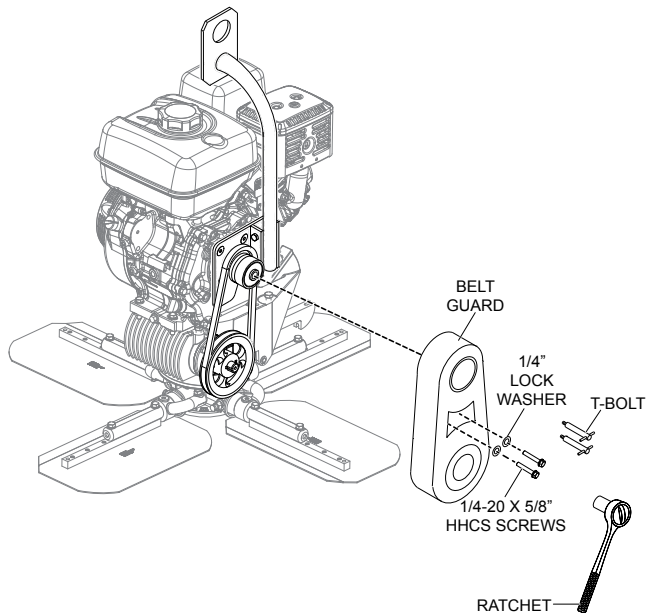

Figure 11. Belt Guard Installation
1. Using a ratchet, ratchet extension, and 7/16" socket, tighten the two 1/4-20 X 5/8" screws and 1/4" lock washers (Figure 11) to secure the belt guard.